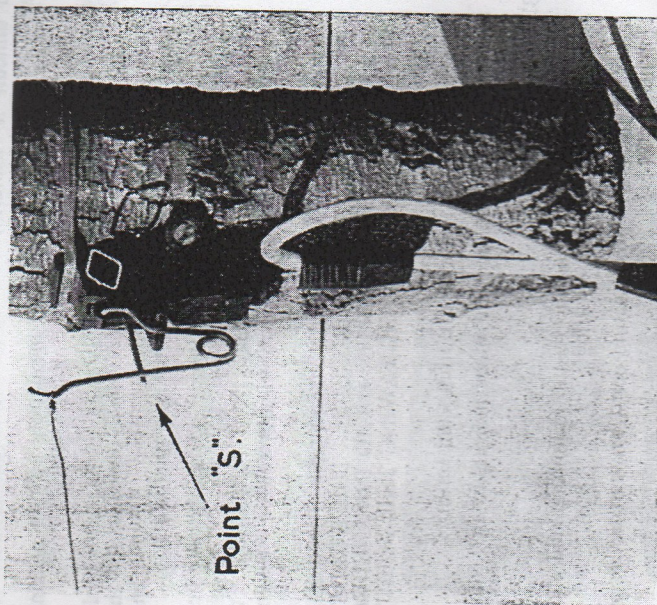

Figure 8
24. Setting. (See Figure 8.)
- f. Cut the tripwire to a suitable length and take a complete turn around the curved neck on the tension release attachment. Adjust tension on wire until arm of attachment lines up with point "S" (Figure 8). Twitch wire securely and cut off spare end.